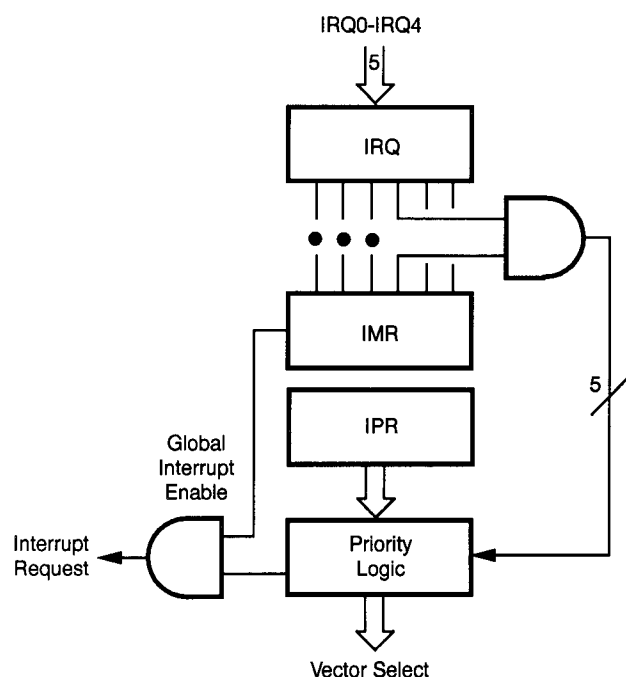

Figure 16. Interrupt Block Diagram
**Interrupts.** The Z86E15 has five different interrupts from five different sources. These interrupts are maskable and prioritized (Figure 16). The five sources are divided as follows: four sources are claimed by Port 3 lines P33-P30, and the other is claimed by the counter/timer. The Interrupt Masked Register globally or individually enables or disables the five interrupts requests.